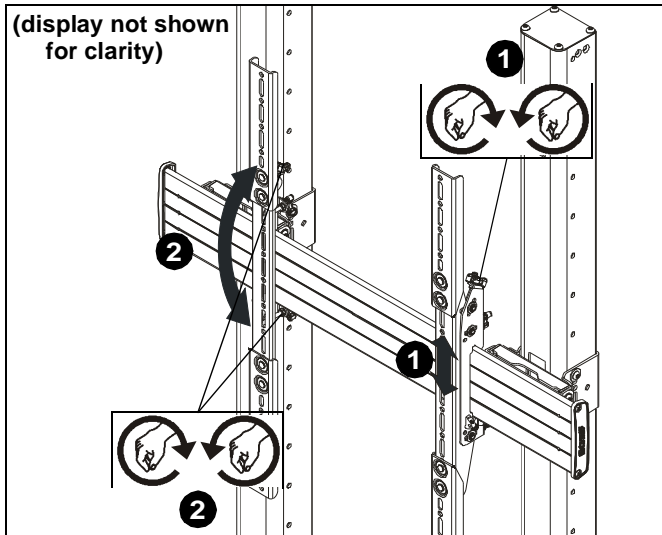

Figure 13
1. Use upper knob on back of interface brackets (S and T) to adjust the height of each display. (See Figure 13)
2. Use middle and lower knobs on back of interface brackets (S and T) to make plumb adjustments to each display. (See Figure 13)